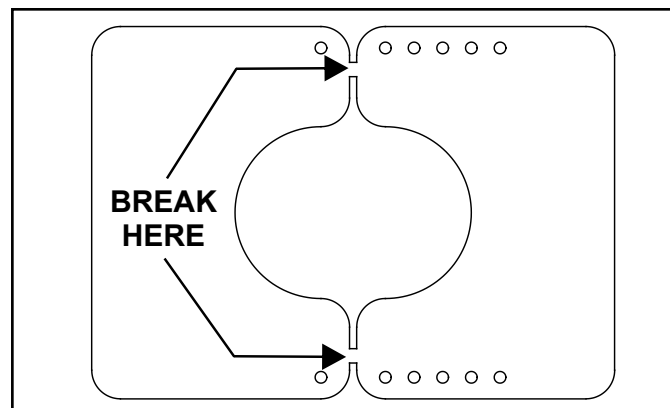

Figure 4.6 Break the Exhaust Restrictor
1. Break the flue restrictor into two pieces. Do this by bending the part back and forth until it breaks. See Figure 4.6.